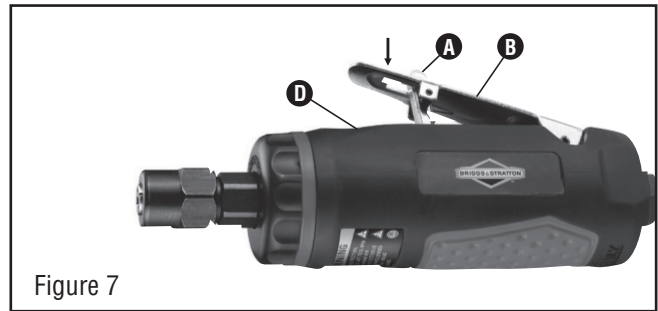

Figure 7
Push the lever (A) forward and press down on the trigger (B) to start the tool (D). (See Figure 7)